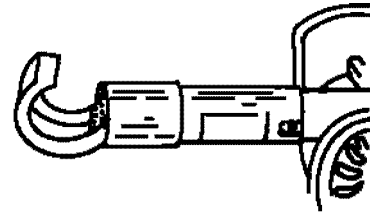

Figure 10. TG-23 Reflector
d. TG-23. Used for heating solder termination sleeves and shrinking medium-diameter tubing and boots. Used for boots up to 1 3/4 inches in diameter and has to be ordered separately (Figure 10).